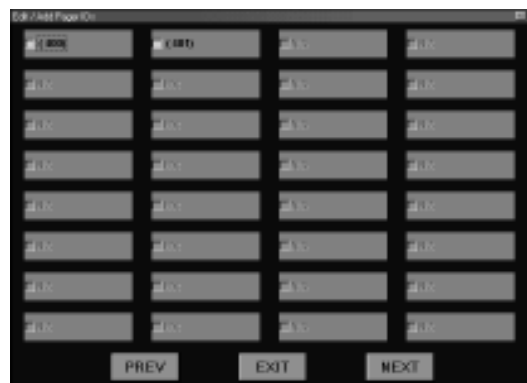

Figure 39: Edit/Add Pager IDs
9. Refer to *Figure 39* for the EDIT/ADD PAGER IDs menu that will appear.
11. After typing in the new pager number, the EDIT/ADD PAGERS ID screen (refer to *Figure 39*) will appear allowing you to edit another pager number, if so desired.